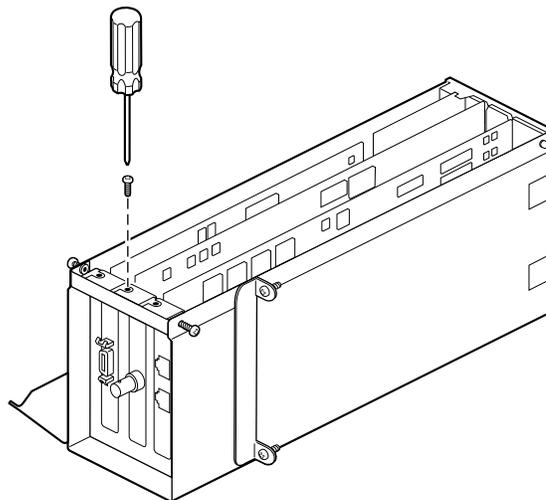

Figure 4-29 Removing the PCI Board Screw
1. Remove the screw that secures the PCI board to the module, as shown in Figure 4-29.